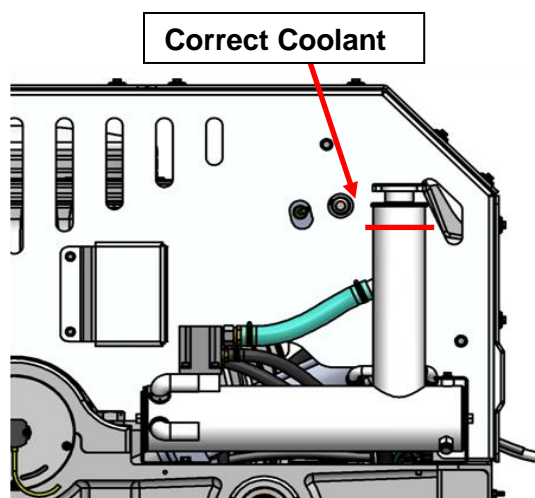

FIGURE 3 – SEAKEEPER 35 COOLANT LEVEL
- 3) Remove pressure cap on top of reservoir. Pour mixture in until level is 1 – 2 inches from top of reservoir as shown in Figure 3. Filling reservoir above this level will not cause any damage but coolant may be expelled from pressure relief port below cap due to normal thermal expansion of coolant.
- Recheck glycol level with fluid circulating in coolant circuit. Sight down inside reservoir and check that coolant level is above upper port on reservoir as shown in Figure 3. Replace cap.